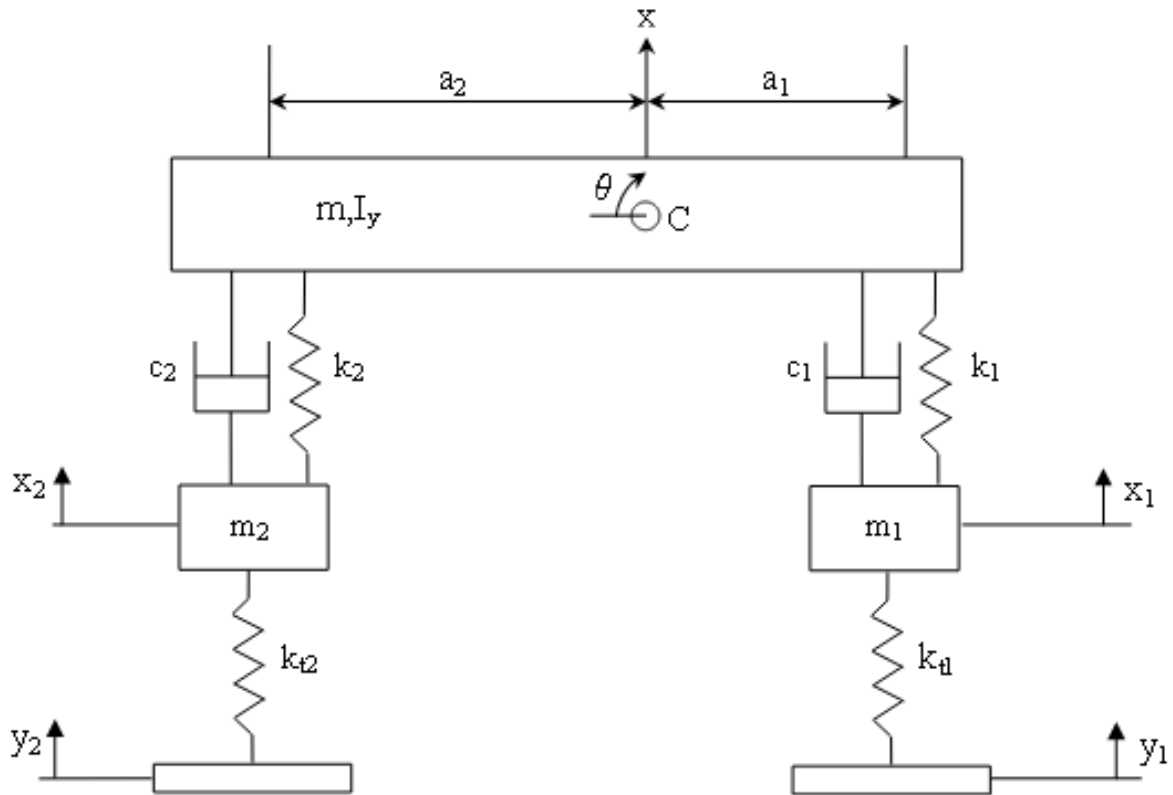

Figure 1. Half-car model for vibration analysis
- Build its equation of motion based on Newton's Second Law of Motion, which must be a second-order differential equation including all parameters shown in Figure 1 in the following generic format:
- Build its equations of motion based on Newton's Second Law of Motion, which must be two second-order differential equations including all parameters shown in Figure 1 in the following generic format: